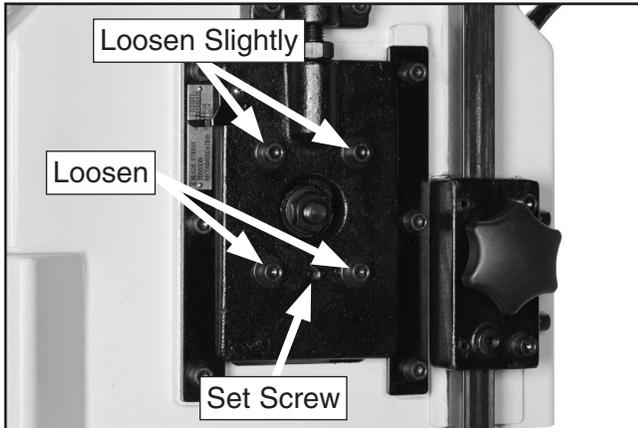

Figure 43. Blade tracking adjustments.
2. Locate the cap screws indicated in **Figure 43**. Loosen the upper screws one half turn and the lower screws 2 full turns. **DO NOT** remove these screws.